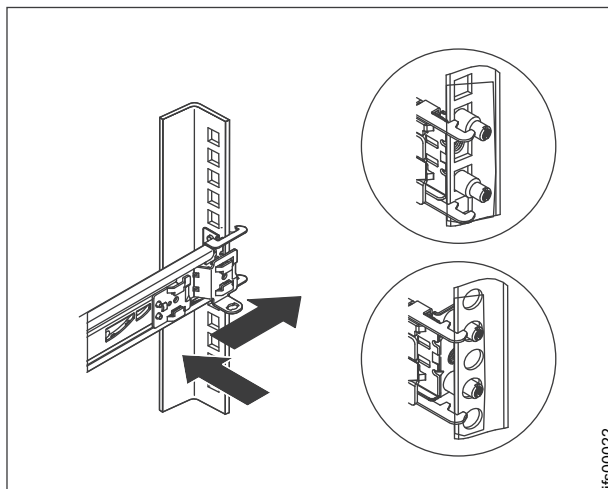

Figure 39. Installing the rear end of the slide rails
4. From the front of the rack, line up the two pins on the rear of the slide rail in the selected unit on the rear of the rack. Push the rails so that the pins go into the holes and slide the rails into the rack to lock the rear of the slide rails into the rack. Refer to Figure 39